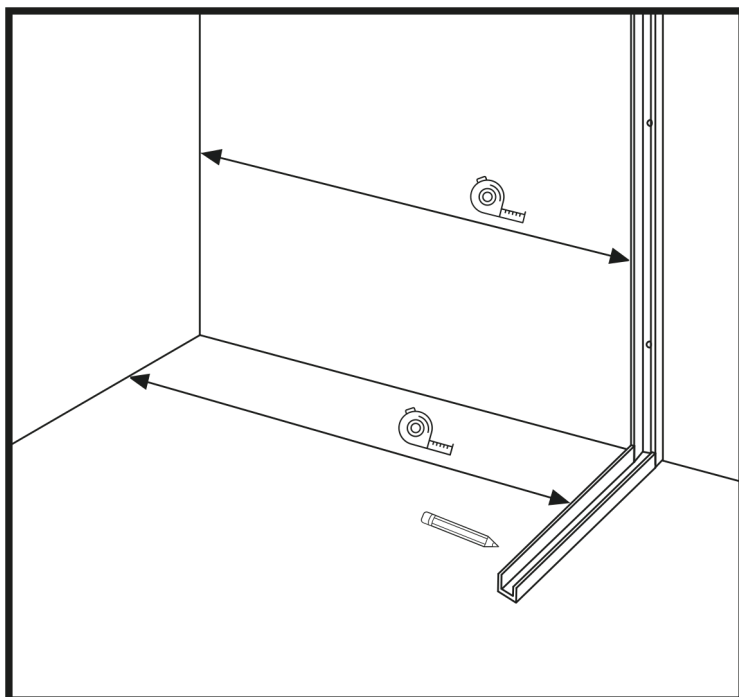

Figure 1
2. Choose the distance of the U-profile from the opposite wall according to your wishes, based on the designed location of your shower door. (Figure 1)